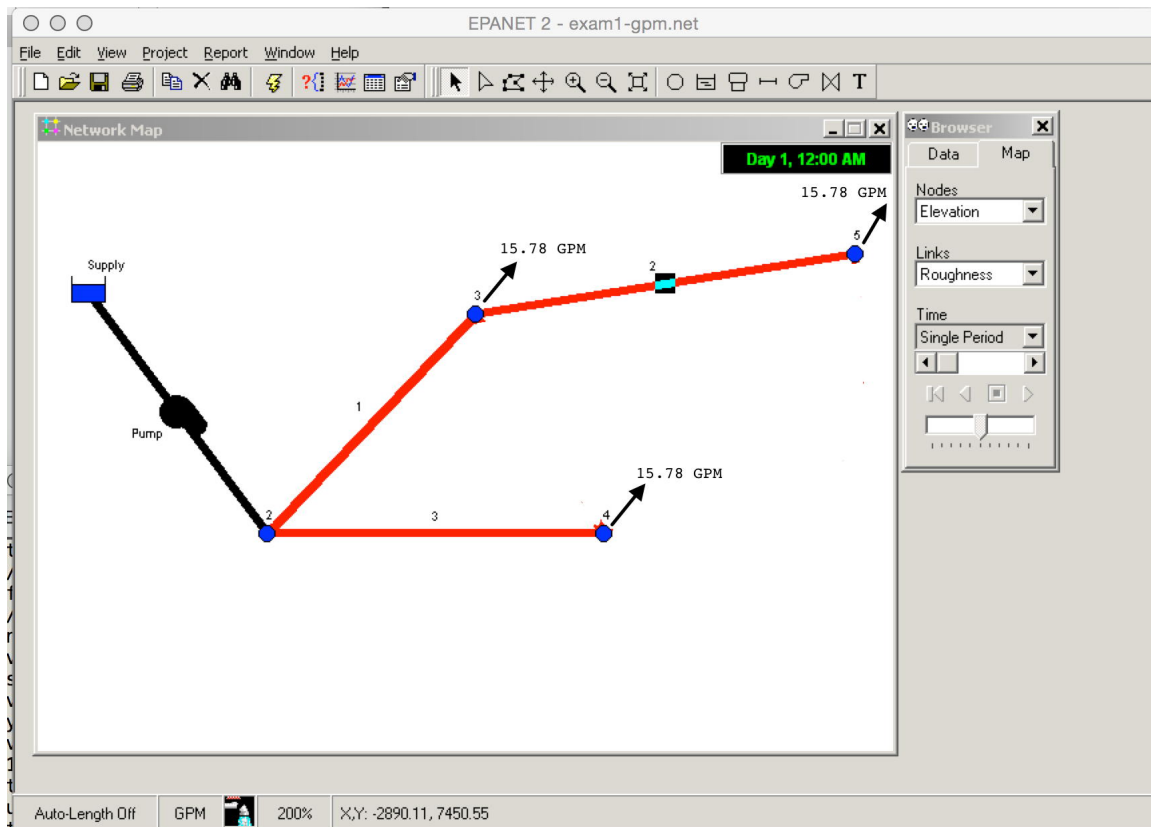

Figure 5: EPA-NET system topology.
- 1) Estimate the discharges, head losses, and nodal heads if pipes 4 and 5 are removed and the nodal demands are as shown on Figure 5. (Same demand as Simulation # 2.)3